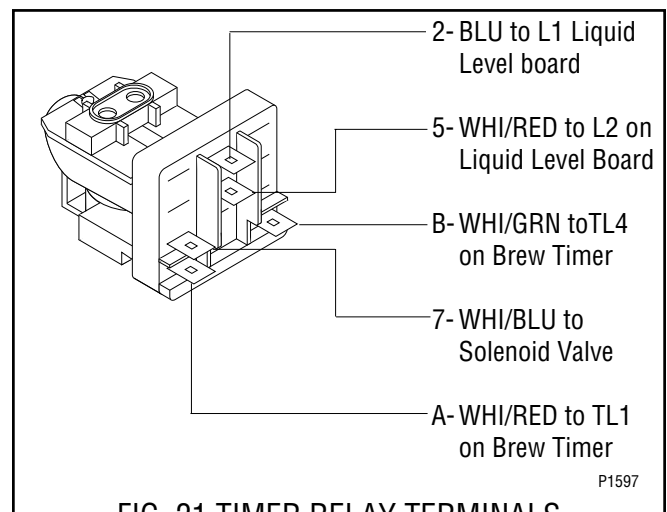

FIG. 21 TIMER RELAY TERMINALS
4. Refer to FIG.21 when reconnecting the relay wires.